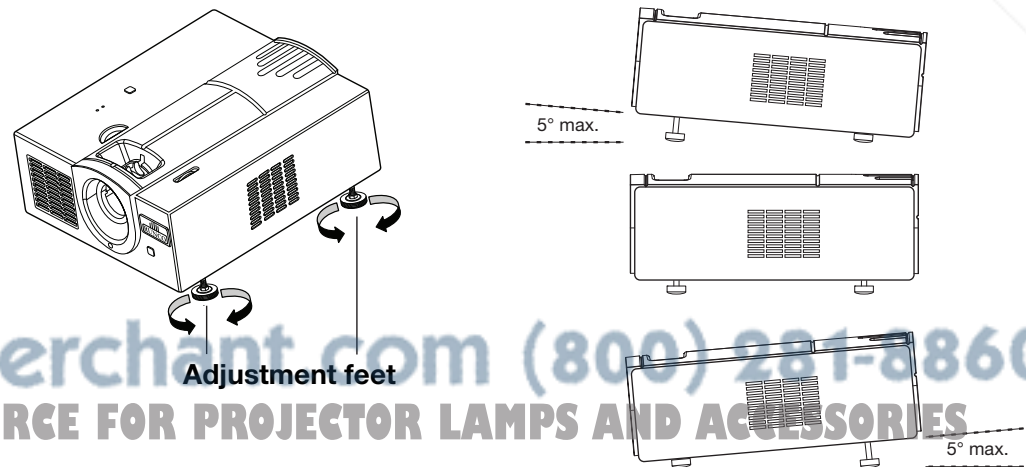

Figure 3-8. Adjusting the Feet
When the RS-440 is installed upright, you can adjust the projector height or projection angle by turning the four adjustable feet on the bottom of the projector; see Figure 3-8. This is useful for correcting the angle of projection when the projector is placed on an uneven surface or when the screen is at an angle. You can tilt the projector up to five (5) degrees up or down by adjusting the feet.